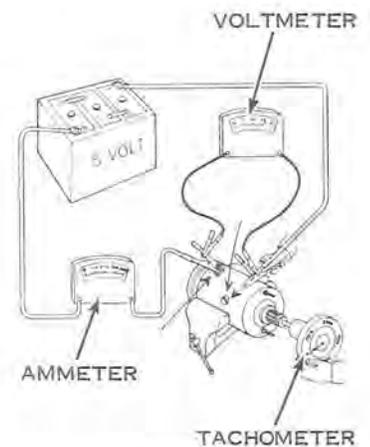

Figure 6-35
- Connect starter, with an ammeter in series, to a 6-volt source (see Figure 6-35). Use a tachometer or rpm indicator to indicate armature speed.